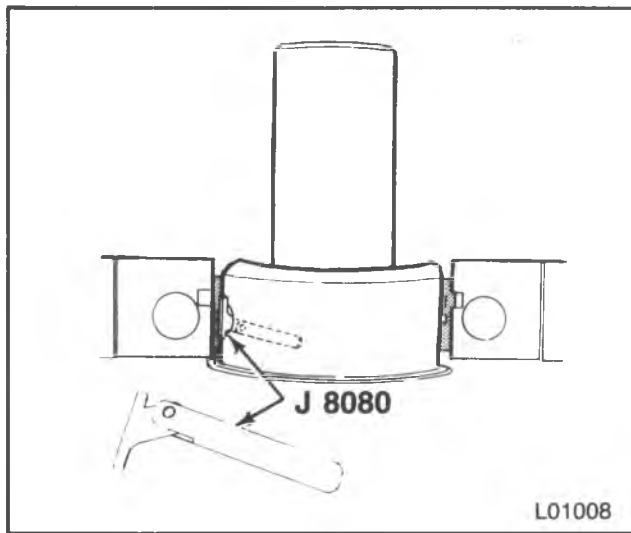

Figure 33 — Removing the Main Bearing
Remove or Disconnect (Figure 33)
- Insert J 8080 into the crankshaft oil hole (figure 33).
- Insert tool J 8080 into a crankshaft main bearing oil hole (figure 33).